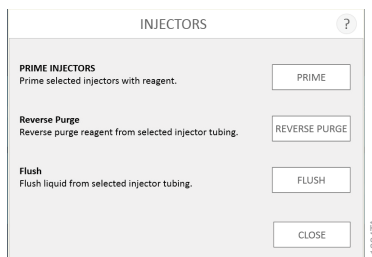

Figure 118. Injector functions (prime, reverse purge and flush).
5. Tap the **Prime** button shown in Figure 118. The door will open.
1. Tap the **Start...** button adjacent to the Reverse Purge option on the Injectors screen (Figure 118). The door will open.
2. Tap the **Flush** button on the 'Injectors' screen (Figure 118). The door will open.